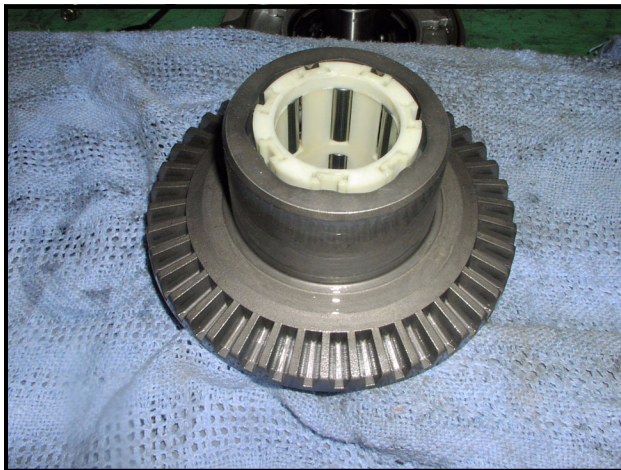

Figure 9-33 Ring Gear and Clutch Cage
1. Position the ring gear and clutch cage with roller bearings on a clean solid surface (**Figure 9-33, Page 9-12**).